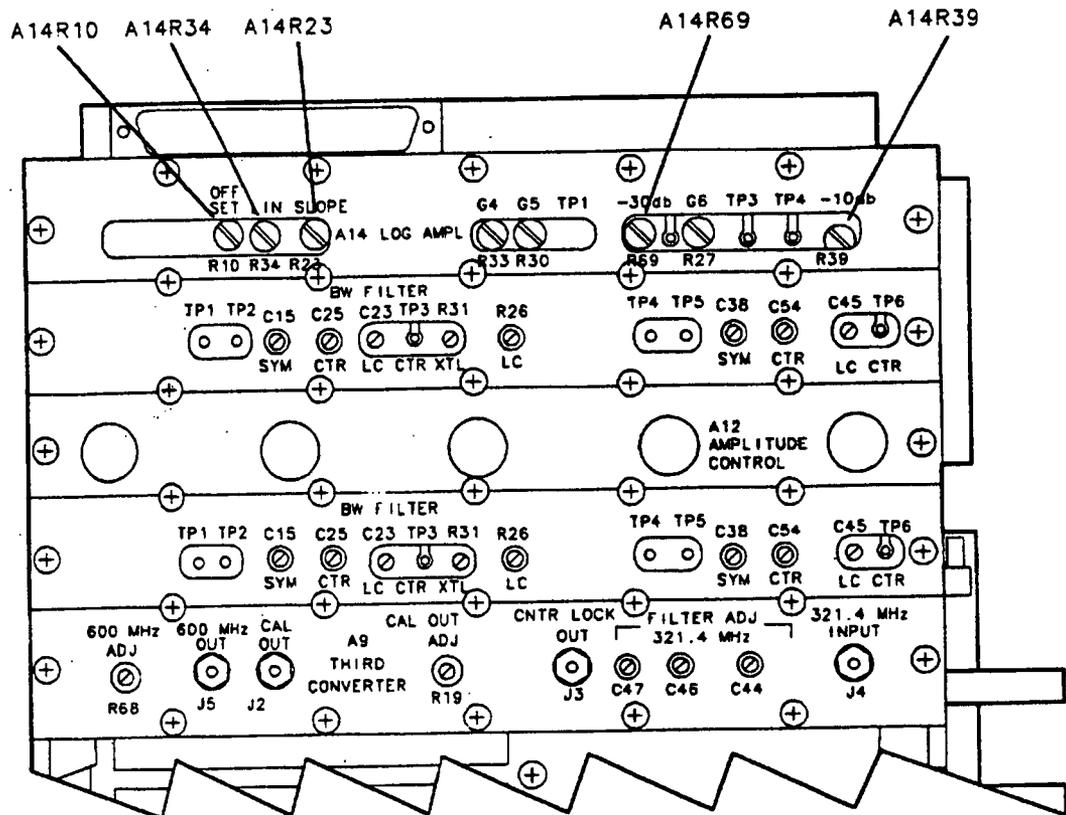

Figure 2-15. Log and Linear Amplifier Adjustment Location
11. Set the synthesizer to the level recorded in step 8 and adjust A14R23 SLOPE (refer to Figure 2-15) for a DMM reading of $1000\text{ mV} \pm 1\text{ mV}$.